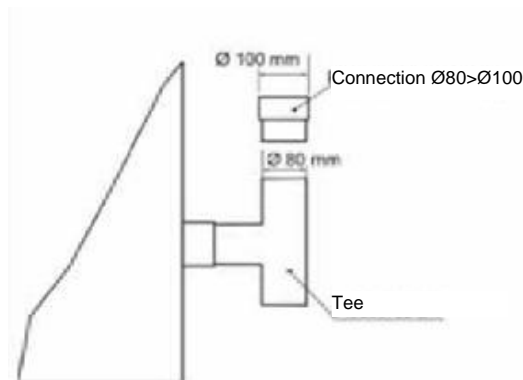

Fig. 5.6
- In the following table are shown the limitations for the duct diameters more used, considering that the maximum and minimum lengths are counted from the "T" output of the stove, and it is from there where it should be increased the diameter of the duct if it is necessary (see fig. 5.6):